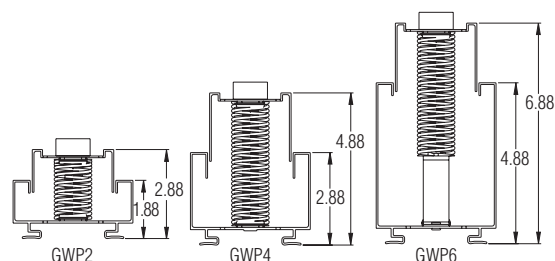
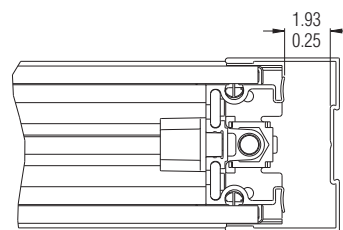

Figure 5
Figure 6
1. Wall posts have the following range: GWP2 $1\frac{1}{8}$ " - $2\frac{7}{8}$ ", GWP4 $2\frac{7}{8}$ " - $4\frac{7}{8}$ ", GWP6 $4\frac{7}{8}$ " - $6\frac{7}{8}$ " (Figure 5). U-channel (Figure 6).